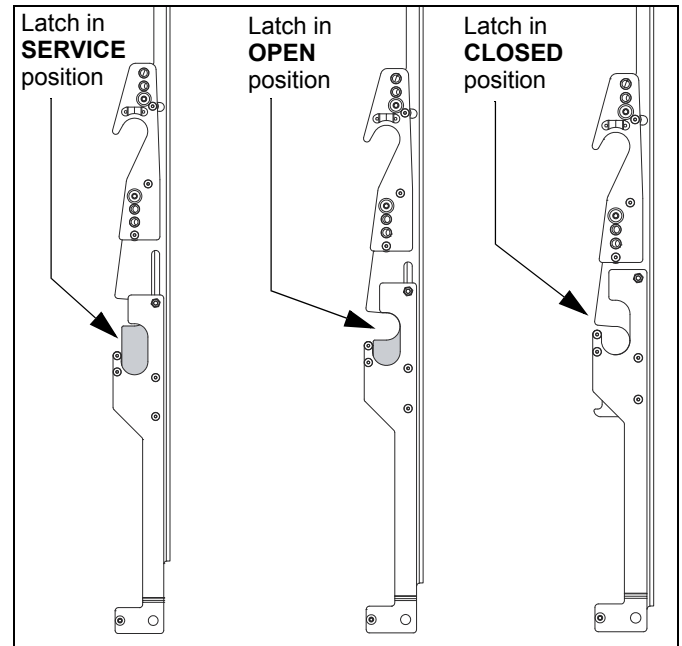

Figure 11
IMPORTANT ! : (XSM1U Only) Completely extend bottom of interface brackets (by pulling downward) to set interface brackets in **SERVICE** position before hanging on top rail. (See Figure 11)
- **XSM1U** - Open latch by pushing bottom of interface bracket up to **OPEN** position, latching interface brackets to lower rail, and then push up from bottom of interface bracket again until the interface bracket is in **CLOSED** position. (See Figure 11) and (See Figure 12)
1. With interface brackets in **CLOSED** position (See Figure 11), remove two fasteners holding tilt compensation in place on each interface bracket (V and W). (See Figure 17)